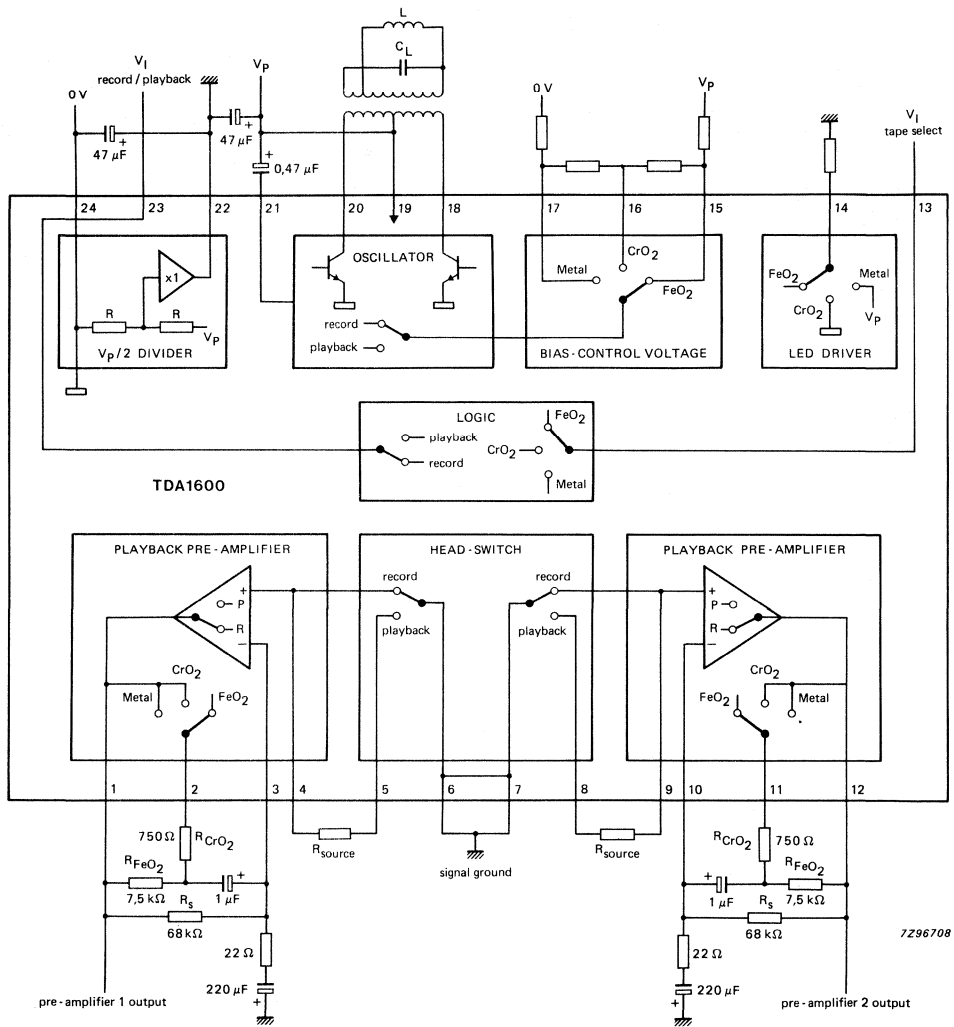
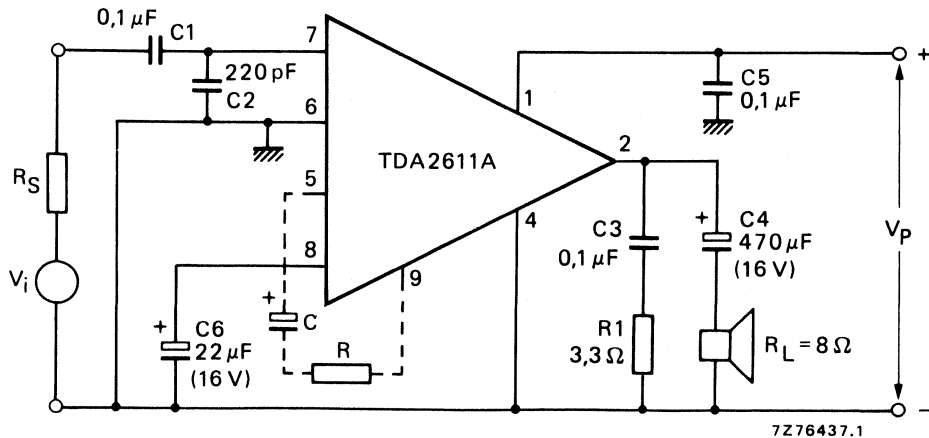

Fig. 6 Test circuit diagram.
Fig. 3 Test circuit; pin 3 not connected.
$V_p = 15 \text{ V}$; $f = 315 \text{ Hz}$; $T_{\text{amb}} = 25 \text{ }^\circ\text{C}$, unless otherwise specified (see Fig. 6)
$T_{amb} = 25$ °C; $V_p = 18$ V; $R_L = 8$ Ω ; $f = 1$ kHz unless otherwise specified; see also Fig. 3
* Input impedance can be increased by applying C and R between pins 5 and 9 (see also Figures 6 and 7).
Fig. 6 Input impedance as a function of frequency; curve a for $C = 1 \mu\text{F}$, $R = 0 \Omega$; curve b for $C = 1 \mu\text{F}$, $R = 1 \text{ k}\Omega$; circuit of Fig. 3; $C_2 = 10 \text{ pF}$; typical values.